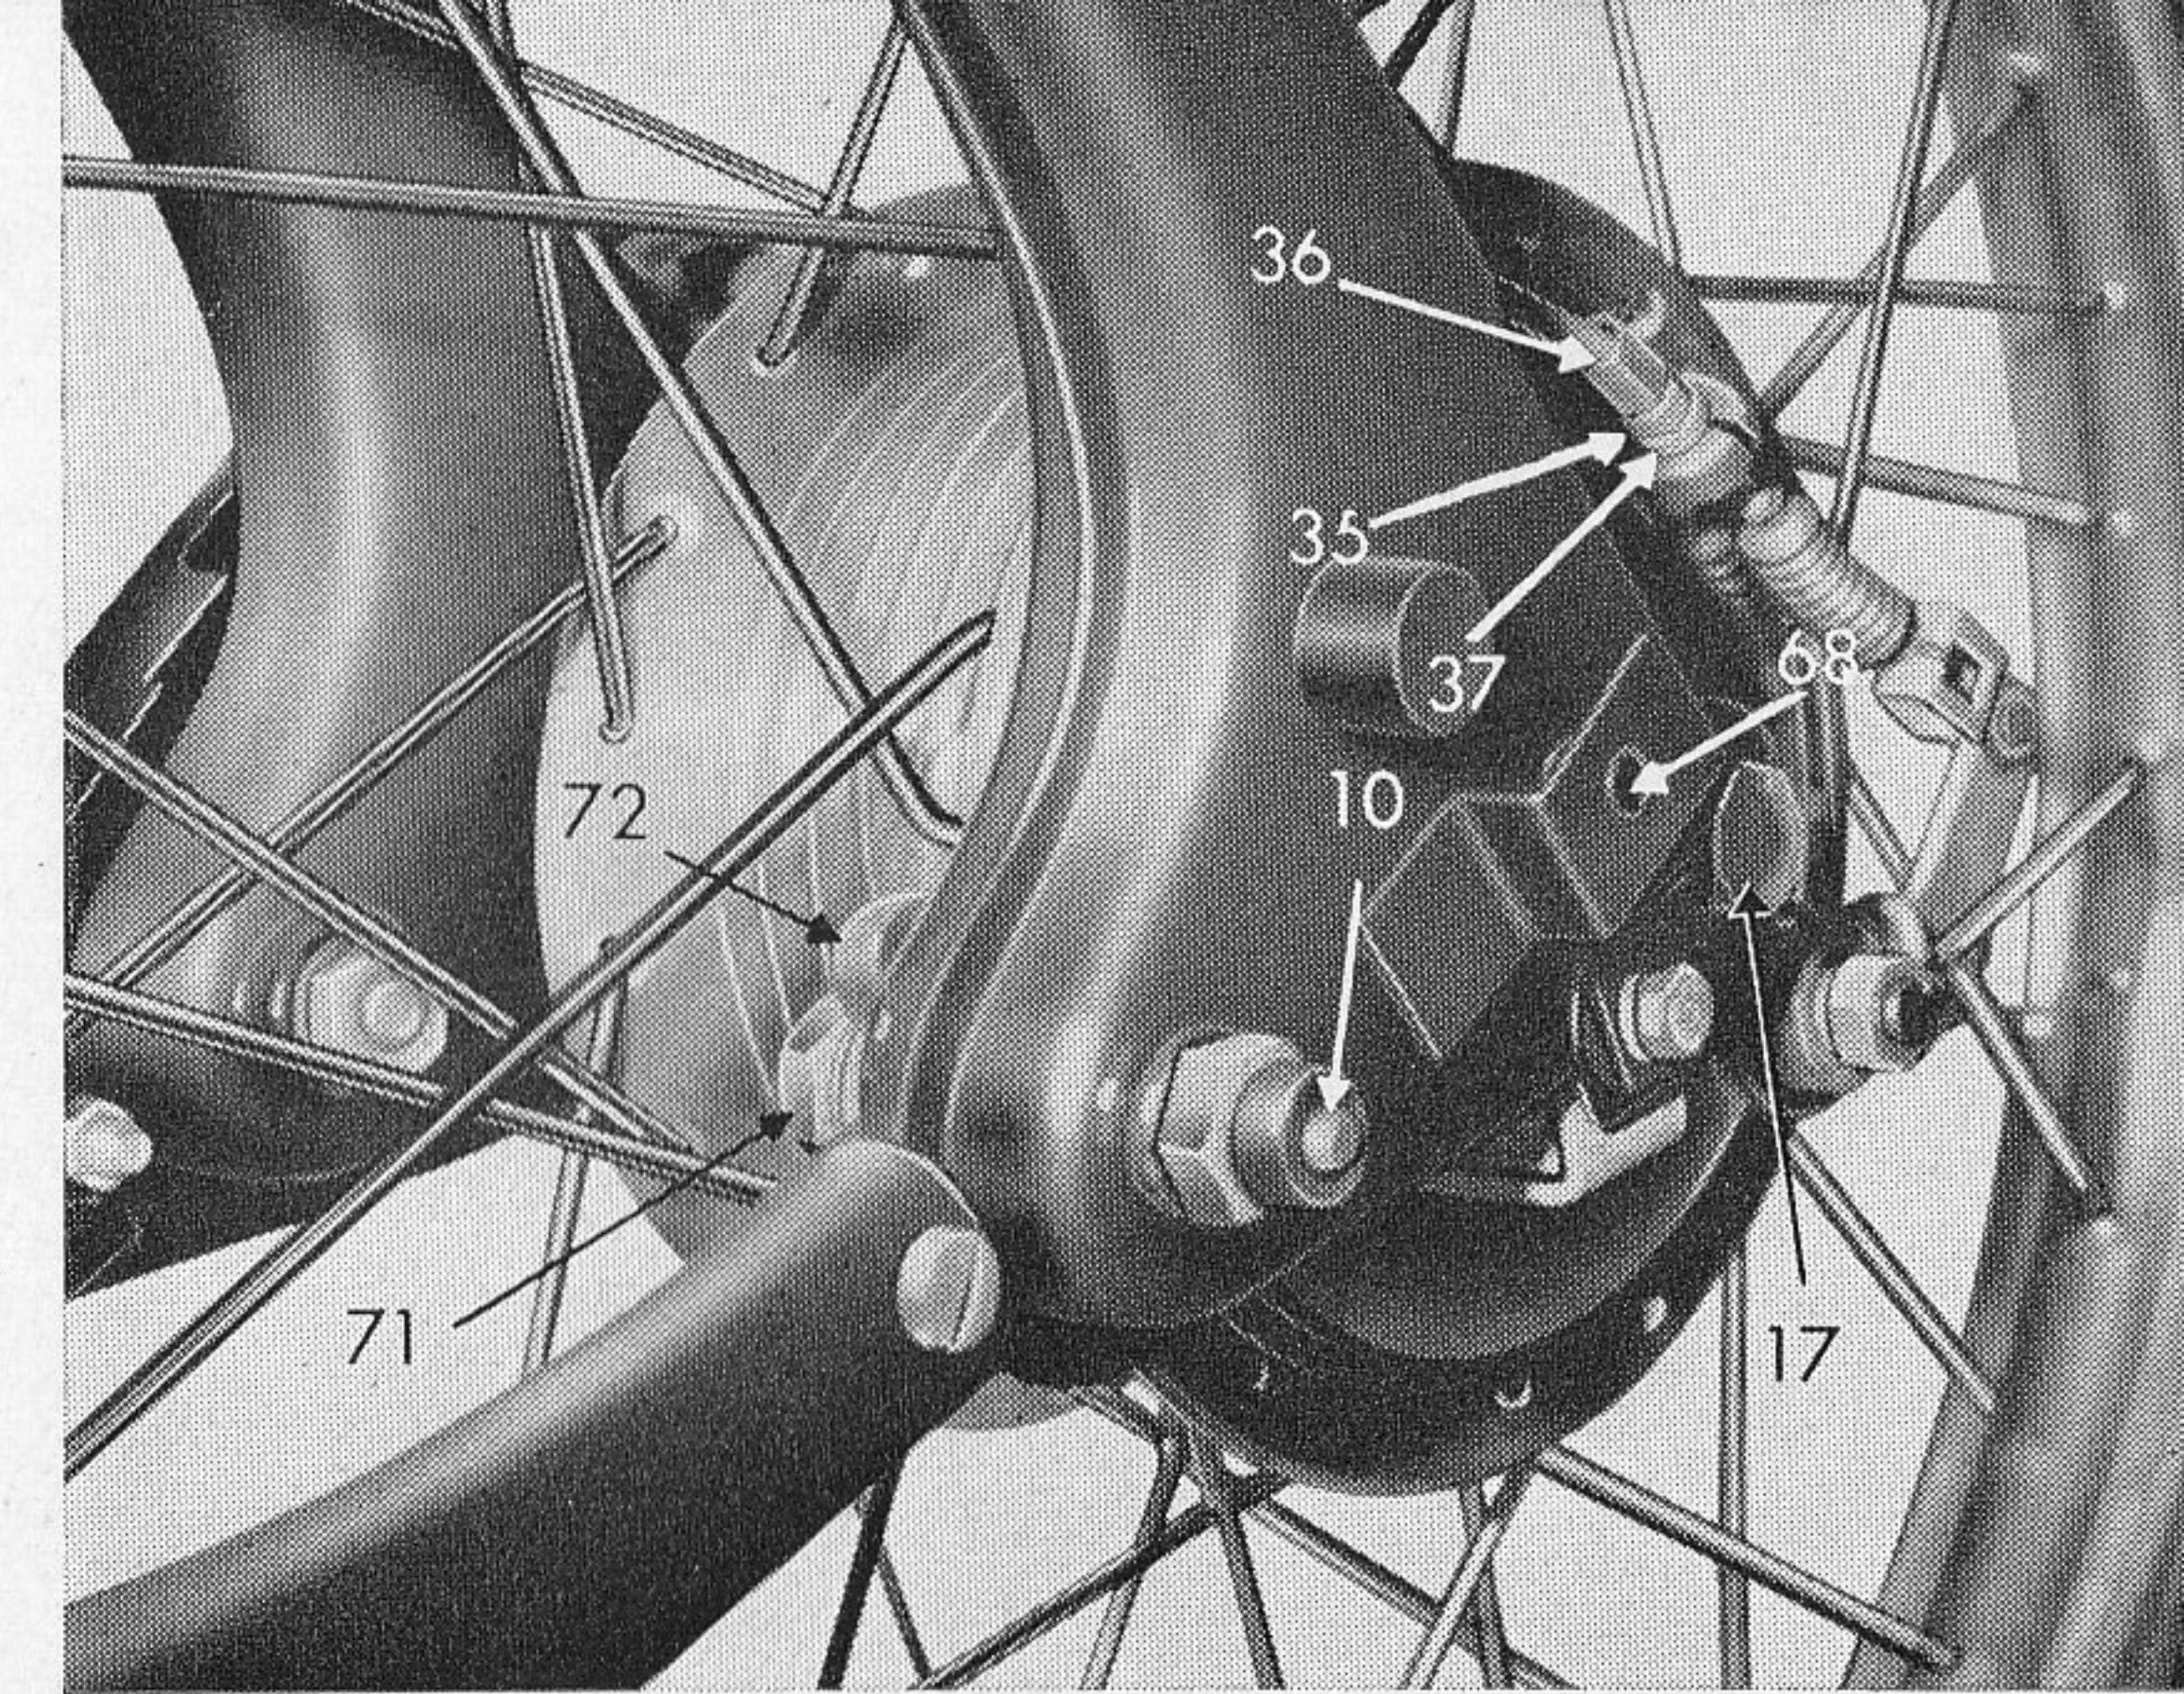

Fig. 8
7. **Taking Off and Fitting Front Wheel Swinging Fork** (fig. 8)
- c) Take off fixing screws 68 (fig. 8) on both sides and embellisher caps
9. Maintenance of Suspension (figs. 8 and 10)
The swinging front fork suspension is lubricated by grease nipples 10 (fig. 8) on either side. Lubricate with high-